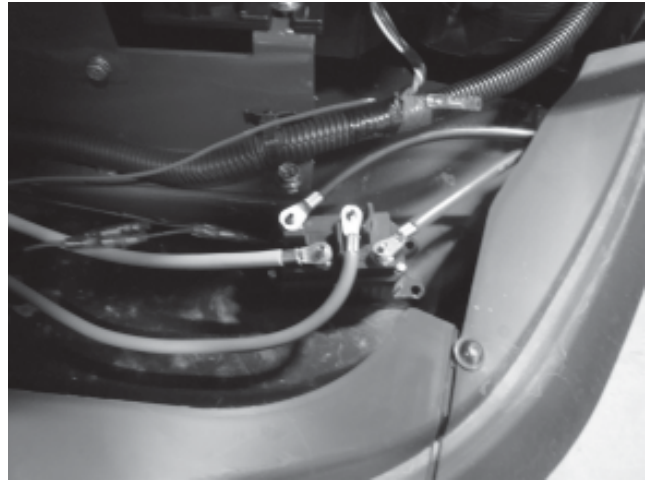

Figure 10
- 10.** Open the hood and position the contactor on passenger side of vehicle as far forward as possible, as shown in Figure 10. Mark the contactor's hole positions, remove contactor and drill four 5/16" holes. After drilling mount contactor with hardware from winch kit. Using protective terminal boots, not shown, connect red wire to yellow terminal, black wire to blue terminal, yellow wire to red terminal and blue wire to black terminal.